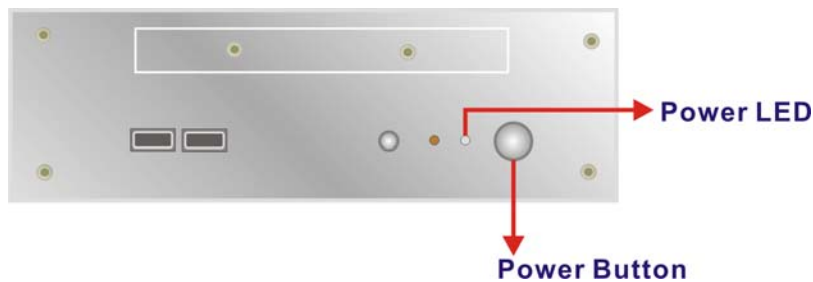

Figure 4-12: Power Button and Power LED
Step 2: Once turned on, the green power LED should be turned on. See **Figure 4-12**.